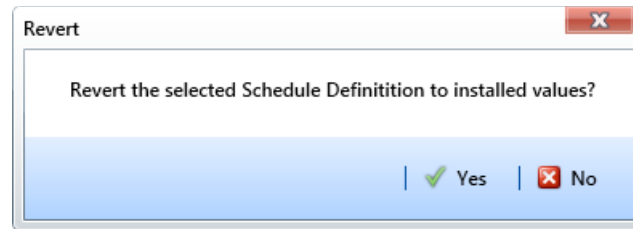

Figure 8-11. Revert Message
- Click **Revert** then click  **Yes** when the *Revert* message displays (Figure 8-11).